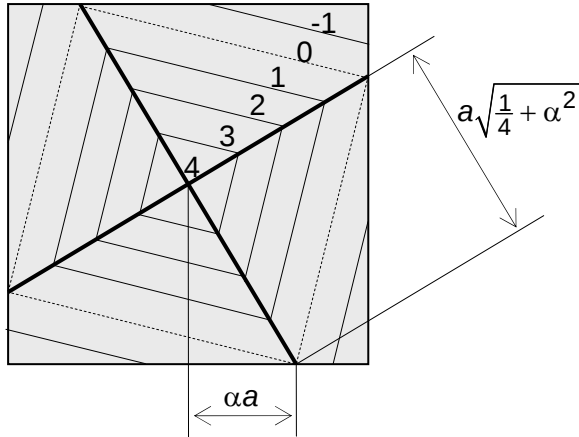

Figure 6. Yield line pattern of problem 2b
- b** Consider the yield line pattern of Figure 6. Determine an upper bound for F expressed in m_p (1.5 points).